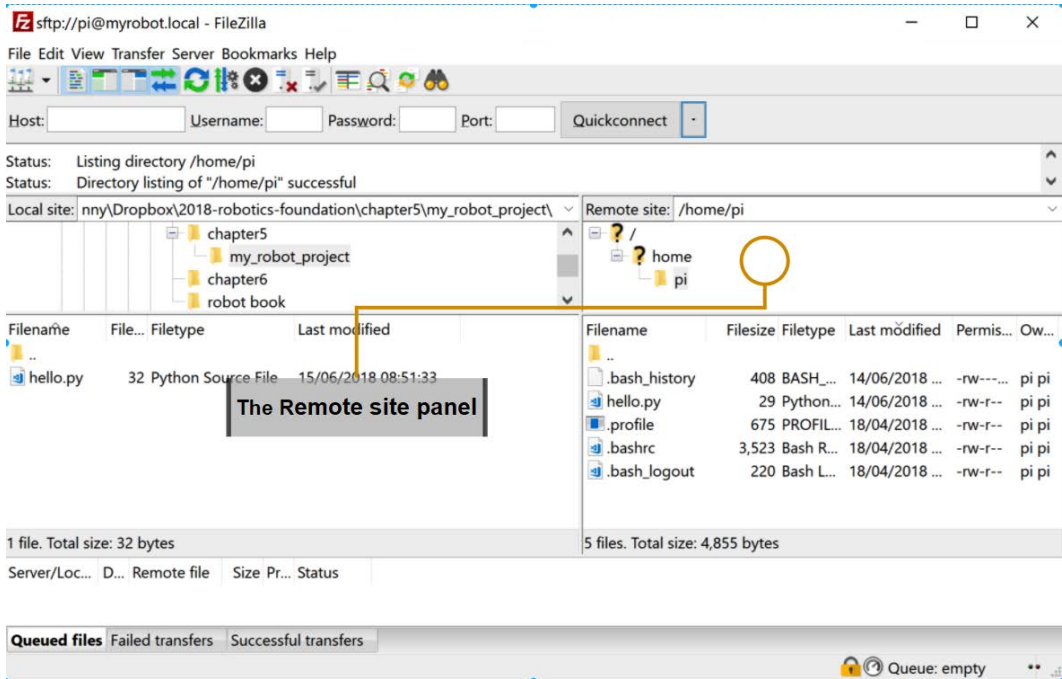

Figure 5.2 – The Raspberry Pi connected
8. When connected, you'll see files on the Raspberry Pi in the right-hand **Remote site** panel, shown in *Figure 5.2*: